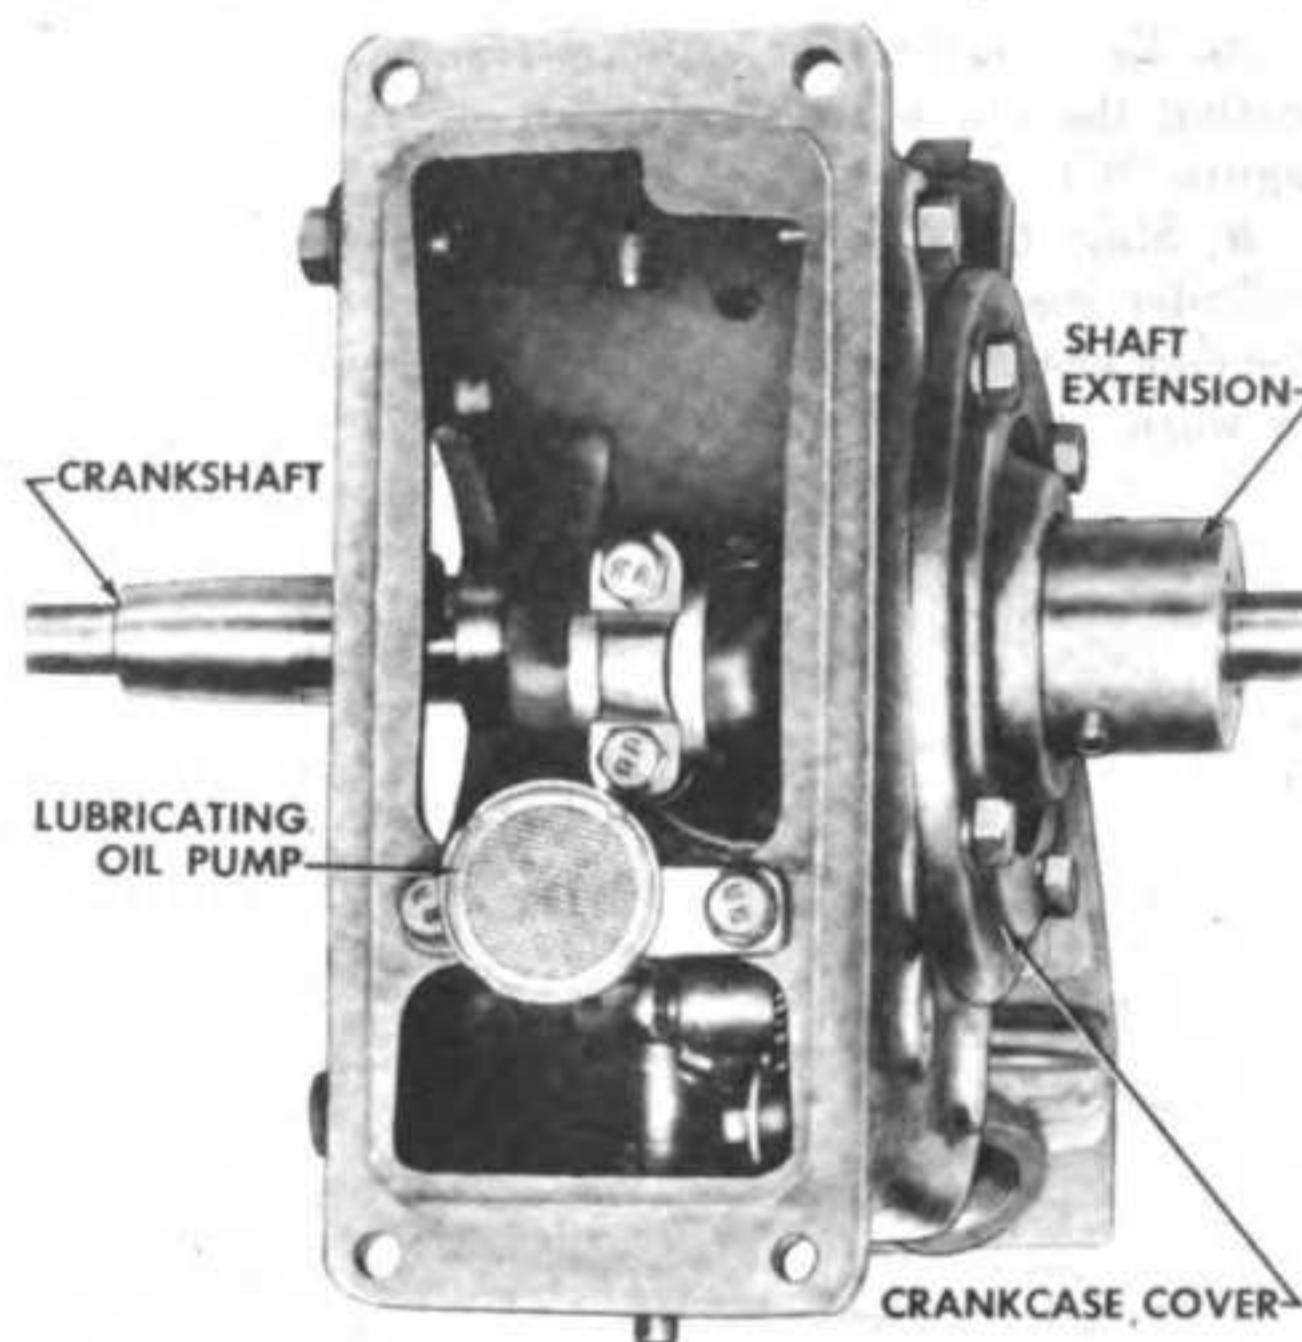

Figure 34—Underside of Cylinder Assembly, Showing Oil Pump
cylinder assembly. (See figure 34.)
m. Remove the four capscrews and lockwashers securing the crankcase cover; lift off the cover. (See figure 34.)
cylinder assembly with two capscrews and lockwashers. (See figure 34.)